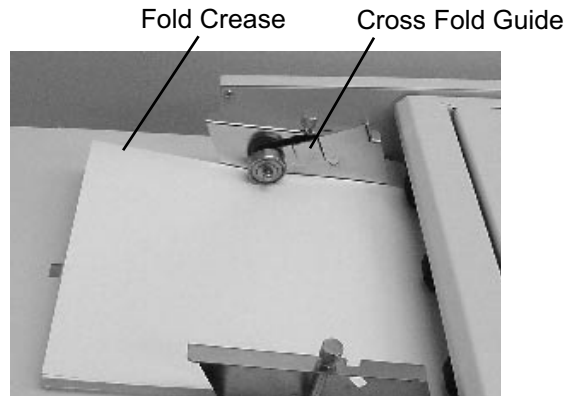

Fig. 11
1. Load folded paper into the feed tray with the fold crease facing the non-operator side of the folder (Fig 11).